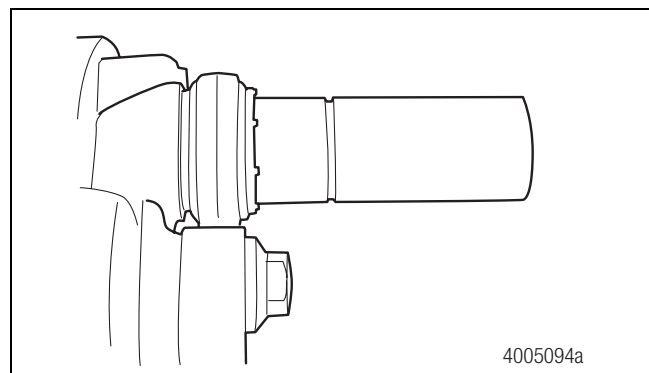
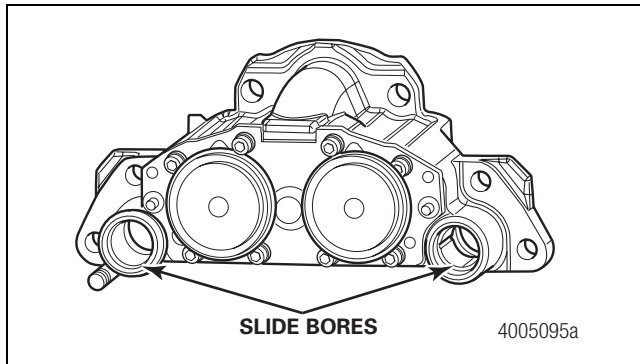

Figure 5.46
Figure 5.47
1. Apply grease to the slide pins and slide bores in the housing assembly. Figure 5.46 and Figure 5.47.